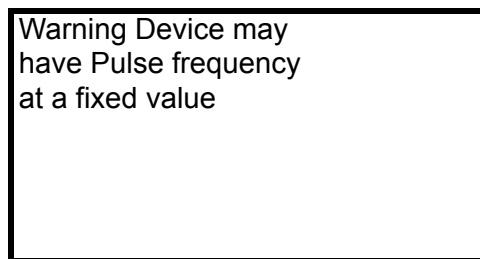

Figure 49 Forcible pulse output warning
7. If F3 (ABORT) is pressed, a message stating 'Warning Device may have Pulse frequency at a fixed value' will appear. (Figure 49) Verify that the pulse output corresponds to the flow output. This message automatically disappears after a short while and then the display will return to the menu.